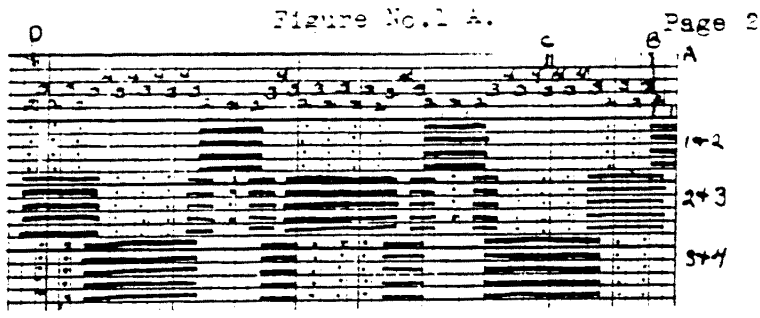

Figure No.1 (B)
Note that the check draft for Figure No.1 (B) is the same as at (A), except that the single thread skips represented by the single dots are arranged differently. Either threading draft can be used depending on effect.